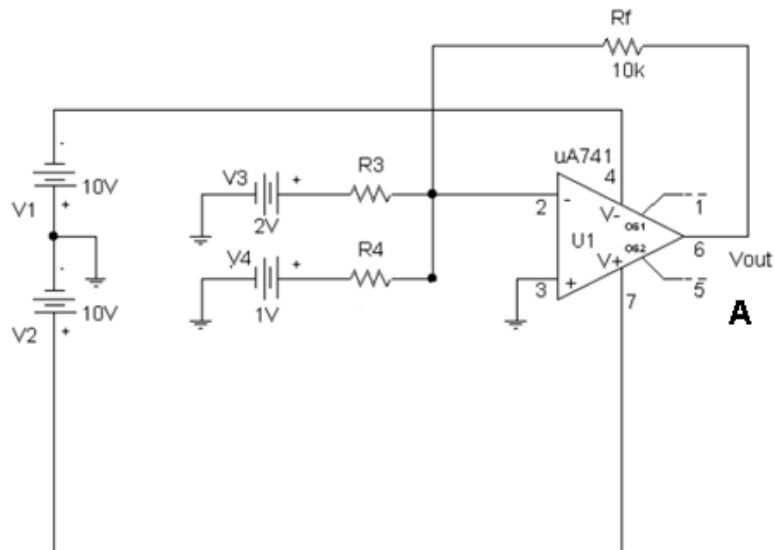
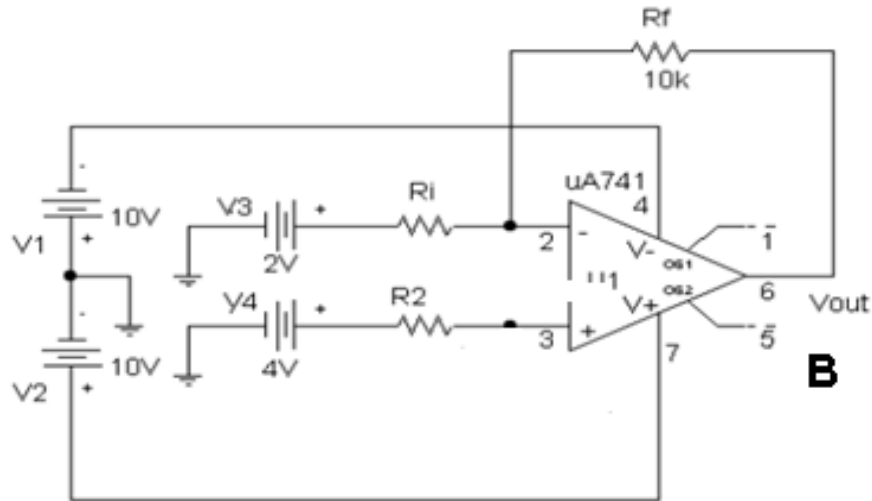
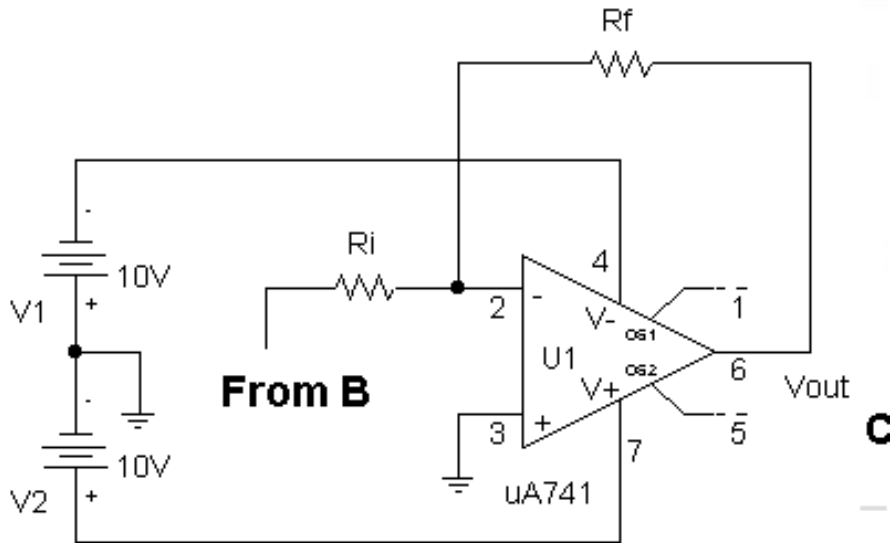

Figure 7: Signal Conditioning 1
Figure 8: Signal Conditioning 2
Figure 9: Signal Conditioning 3
(b) **Figure 7, Figure 8 and Figure 9** are signal conditioning circuits using operational amplifier. Answer the question below :
- i. At Figure 8, let $R_f = 10K$, $R_3 = 1K$, $R_4 = 2K$, calculate the voltage output
ii. At Figure 9, Let $R_f = 10K$, $R_1 = 1K$, $R_2 = 2K$, calculate the voltage output from B. (4 marks)
iii. At Figure 10, From output B at Figure 9 is fetch to the input of amplifier figure to get output C. calculate the voltage output and draw the voltage output signal of output C versus input B. (6 marks)